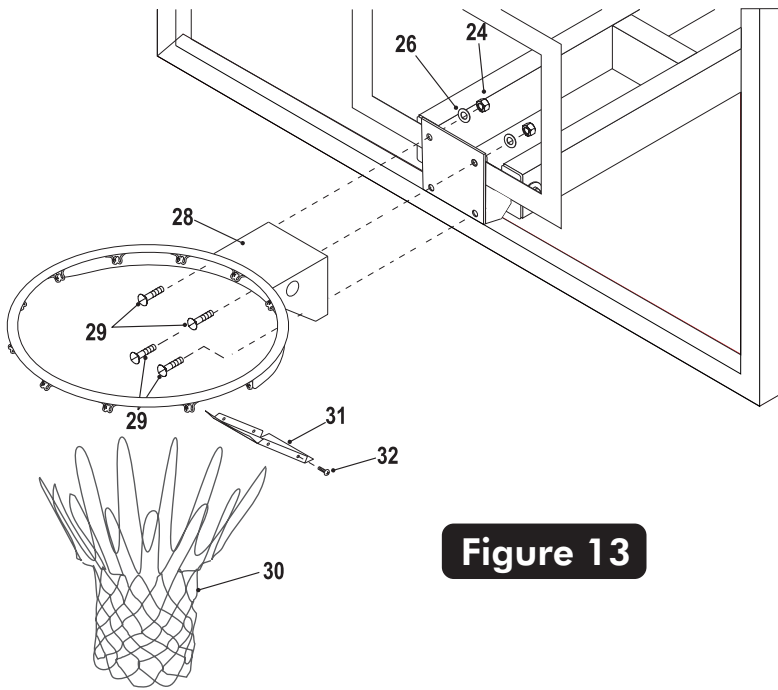

Figure 13
20. Mount Goal Assembly (#28) to Backboard as shown in Figure 13, using four bolts (#29), four washers (#26) and four nuts (#24). Tighten Fasteners but leave loose enough to level rim.